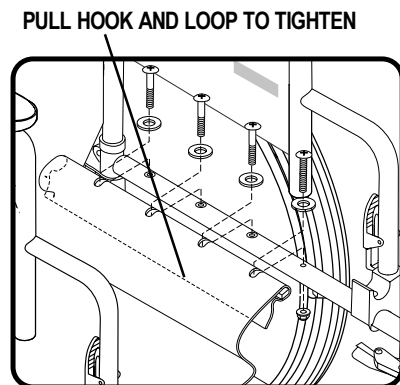

Figure 20. Seat Tension Adjustment
1. Loosen the screws that attach the seat to the side rail on the left side (side with hook and loop). See figure 20.